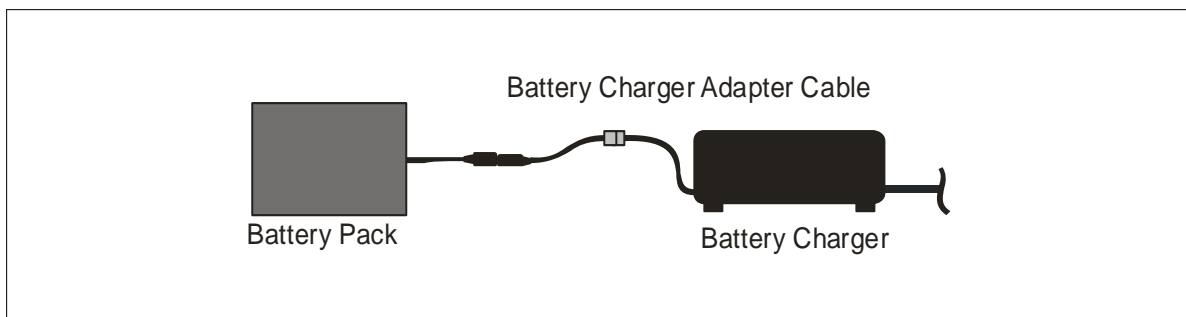

Figure 3 – Connecting the Wireless Kit – Charging the battery
Figure 3 shows how to connect the battery charger (6) to the battery pack (5) using the battery charger cable adapter (11).